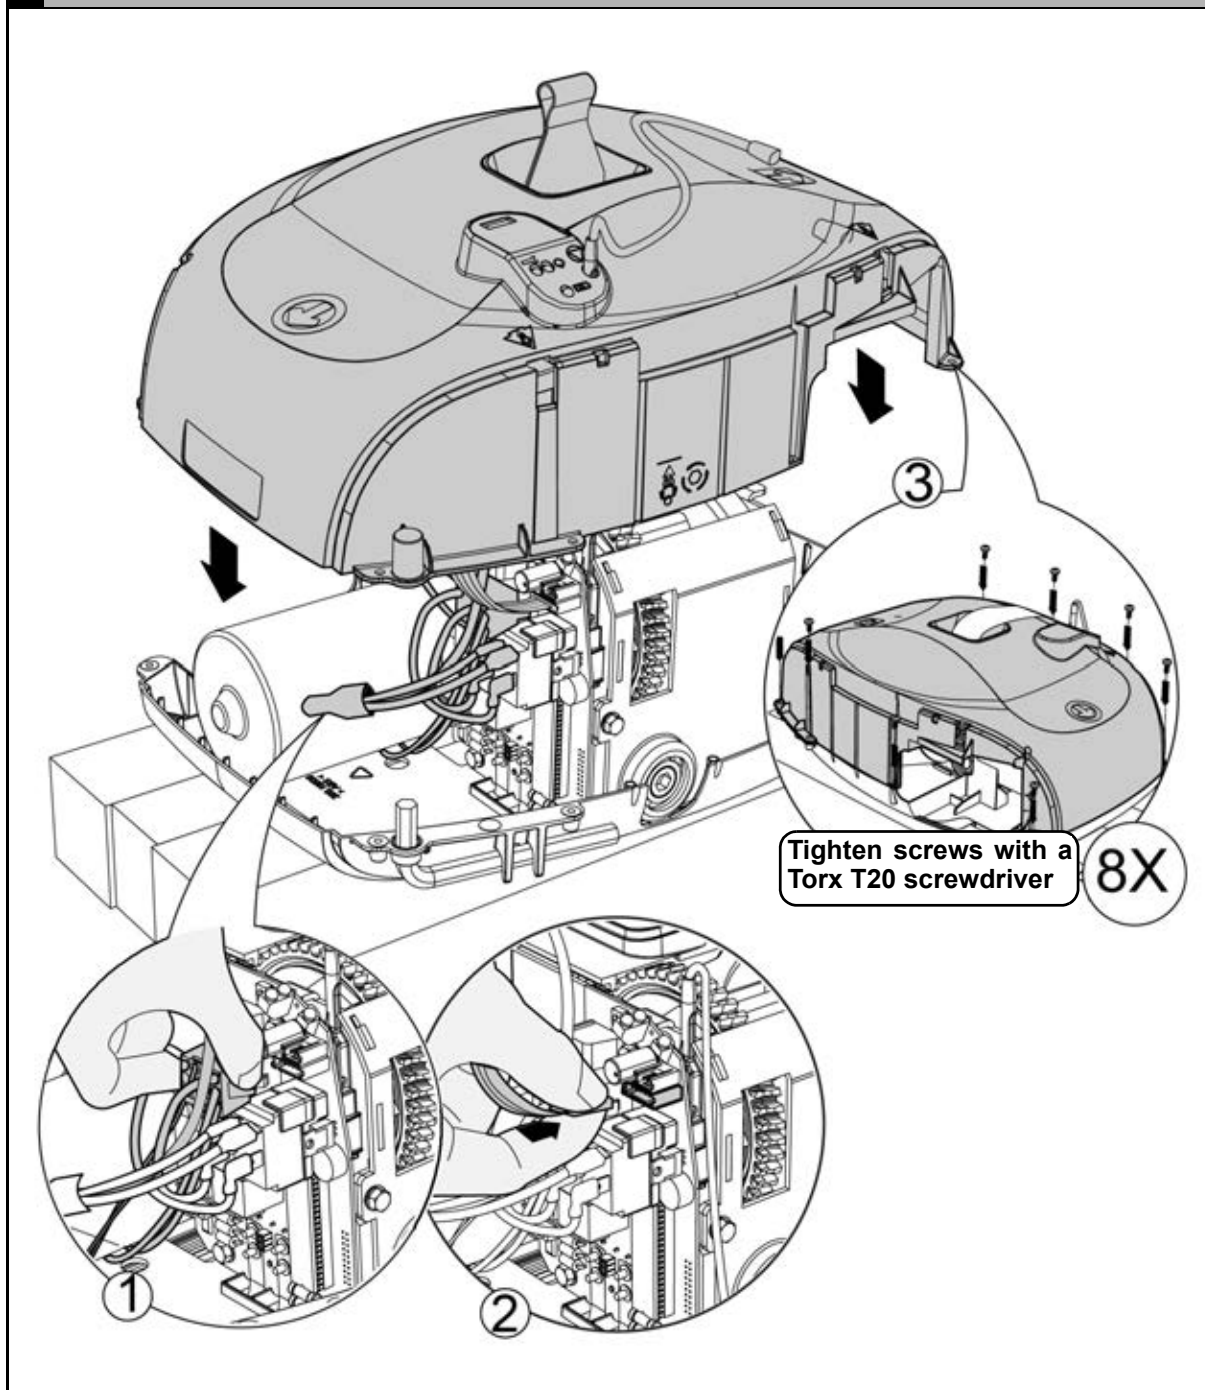

Fig. 32
- ① Replace the three screws that secure the motor to the motor support plate.
- ② Replace the gear fully on the motor shaft.
- ③ Install and tighten the two screws located in the corners of the motor support.
- ④ Reinstall the top plastic cover (see Fig. 32), the handset (see Fig. 14) and the batteries (see Fig. 15).